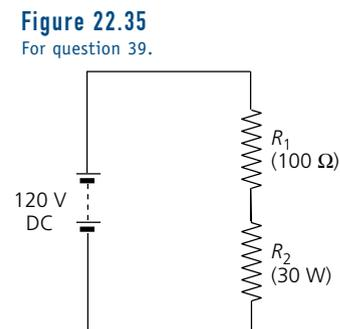

Figure 22.35
- ***39 A 100Ω resistor is connected in series with a second, unknown, resistor, R_2 , and a 120 V battery, as shown in Figure 22.35. If the battery has negligible internal resistance and the unknown resistor dissipates 30 W of power, calculate its resistance value.